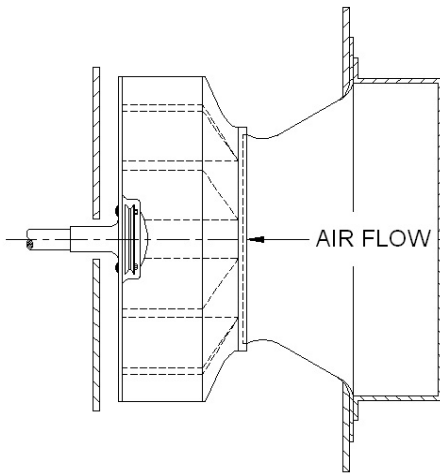

Figure 1 Inlet Cone and Wheel Fit up
1. Rotate the fan wheel by hand to check for free rotation and any shifting of the wheel which might have occurred during shipment and installation. See figure 1 for the relationship between the inlet cone and the fan wheel. If necessary, slide the wheel into correct position. Correct minor rubbing between the inlet cone and the fan wheel by placing addition shims under the fan. Alternately, loosen the attaching hardware on the front stand and move the inlet cone into proper position (the gap should be even) using a rubber mallet.